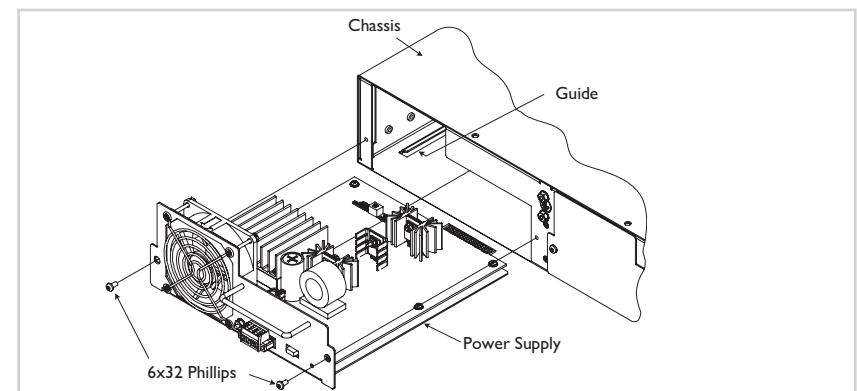

Figure 7: Power Supply Installation
4. Slide the power supply into the installation slot as shown in Figure 7, aligning it with the installation guides—make sure that it is fully seated in the chassis slot.